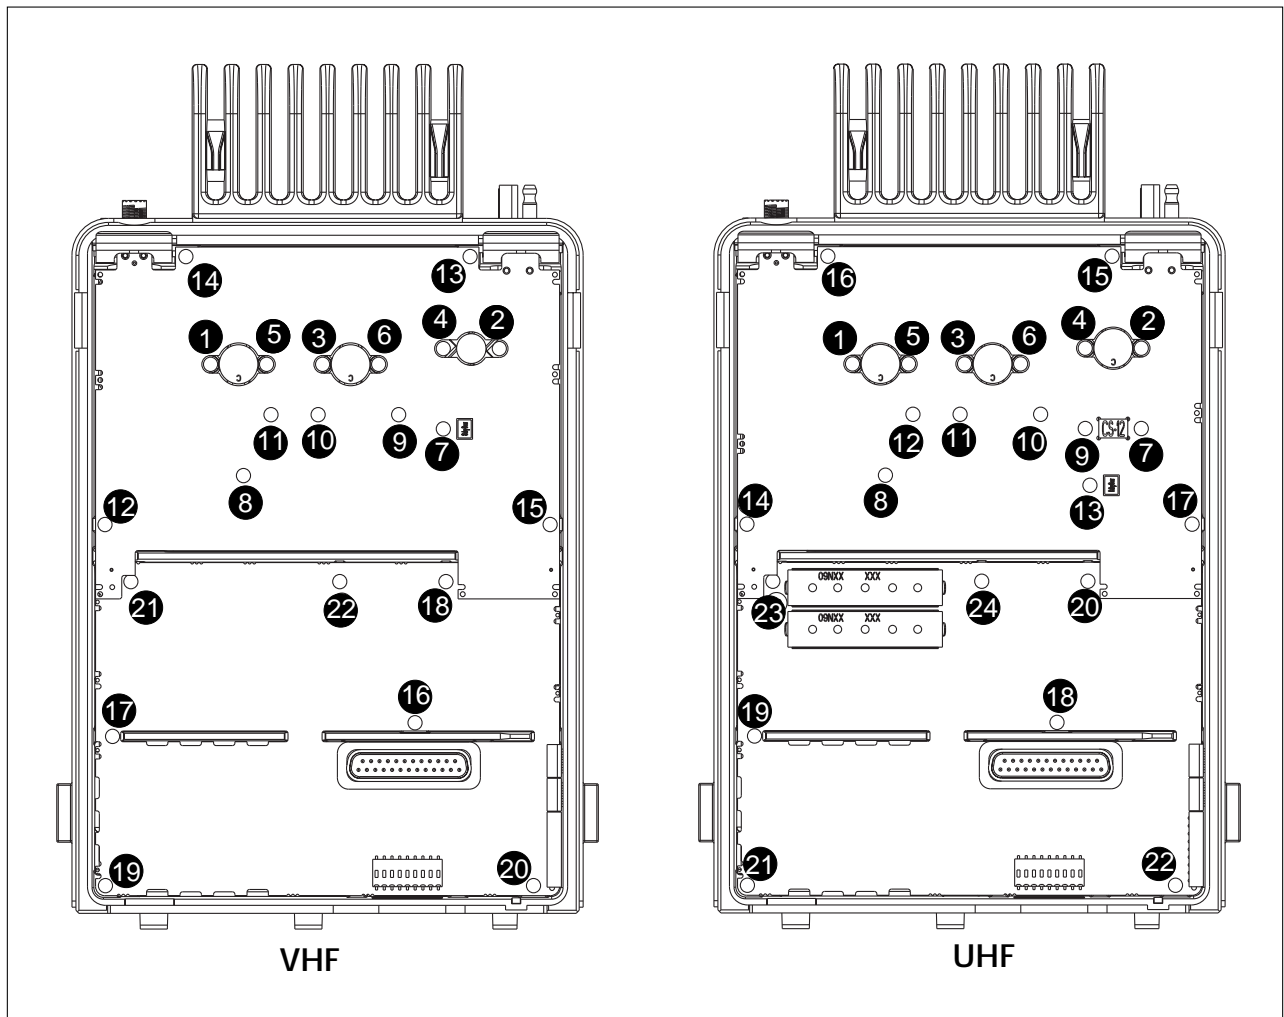

Figure 5-19 Reassembly Screw Down Sequence
Observe the screw-down sequence in Figure 5-19 when installing screws. Proper alignment of boards depend on following this sequence.
7. Fasten screws #1-6 to 12 in lbs of torque using a T-8 Torx driver. Fasten the remaining screws (#7-20 for VHF models, #7-22 for UHF models) to 6-8 in lbs of torque using a T-10 Torx driver following the screw down sequence in Figure 5-19.